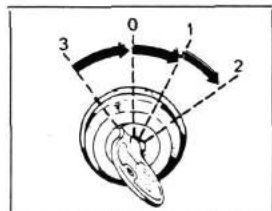

Fig. 19
4. Insert the starting key and turn it to position 1, fig. 19.
6. Push the starter switch key and turn clockwise to position 2, fig. 19. Hold the key there until the engine starts. The key when released will return to the switched on position (fig. 19:1). If the key is held in position 2 with the engine running the starter generator relay may be damaged.
NOTE: The starter switch is also the main switch for the electrical system of the engine. Because the engine is equipped with an alternator the starter key must not be turned off (position 0 in fig. 19) when the motor is running as the alternator rectifier diodes could be damaged. For the same reason the battery cables should never be disconnected or reconnected to another battery while the engine is running.